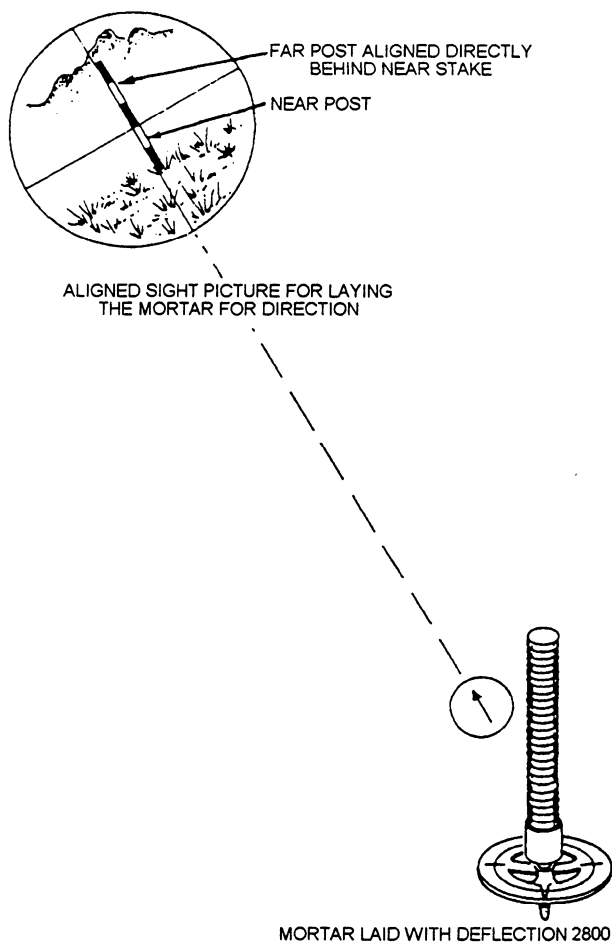
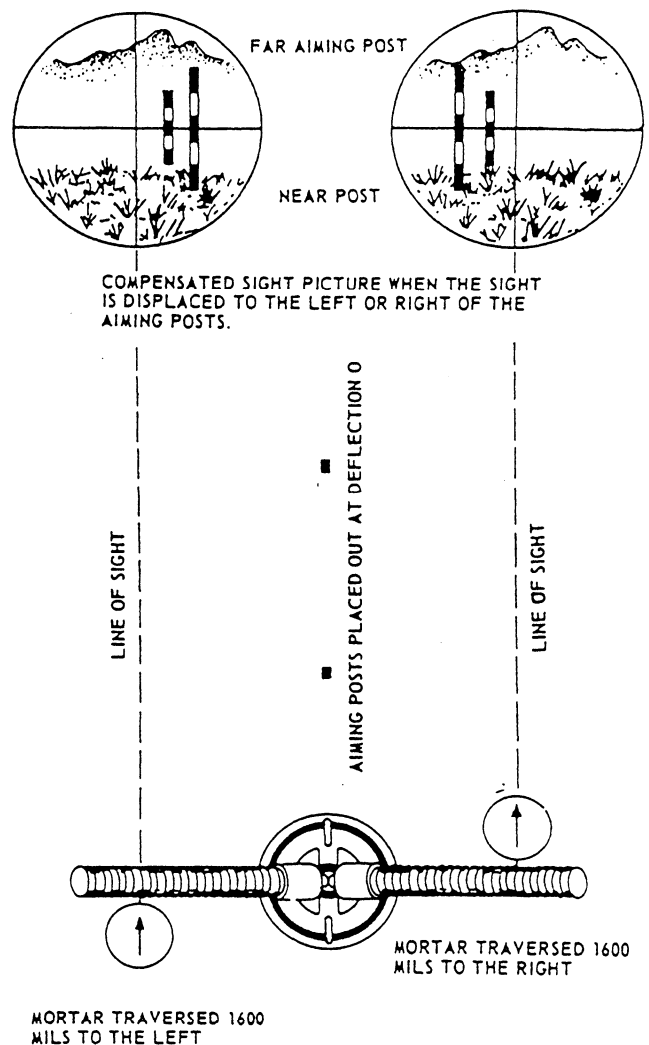

Figure 14-16.—Aligned sight picture.
Figure 14-17.—Compensated sight picture.
the ALIGNED sight picture (fig. 14-16). If the two aiming posts do not appear as one, displacement of the sight or the baseplate has occurred. This separation is caused by one or two things: either (1) a large deflection shift that moves the entire sight out of the plane passing through the aiming posts; or (2) a lateral (left or right) displacement of the baseplate caused by the shock of firing, which also moves the sight out of the plane of the aiming post. When both the far post and the near post are visible, it is called a COMPENSATED sight picture (fig. 14-17).
The gunner can only have one of two sight pictures when the mortar is fired: either the **ALIGNED** sight picture or the **COMPENSATED** sight picture. To use the aligned sight picture correctly, the gunner must lay the vertical line of the sight reticle, so it just touches the left side of the visible aiming post (fig. 14-16).
To use the compensated sight picture correctly, the gunner must lay the vertical line of the sight reticle, so the left edge of the far aiming post is placed exactly midway between the left edge of the near aiming post and the vertical line of the sight reticle. This corrects for displacement of the sight (fig. 14-17).